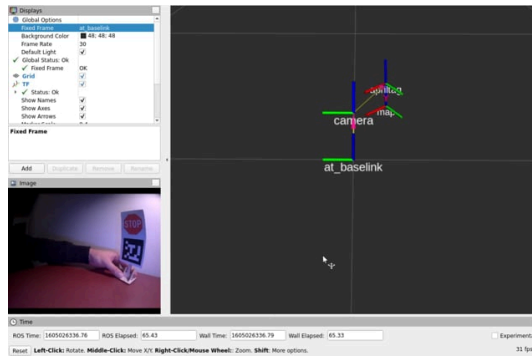

Figure 4.6. Example video deliverable for the AT localization package with compressed images
- A screen recording similar to the one in Figure 4.6 where you move the Apriltag in front of the robot from one side of the Field-of-View (FOV) to the other. Make sure that the video contains the camera images as well as the TF tree in Rviz.